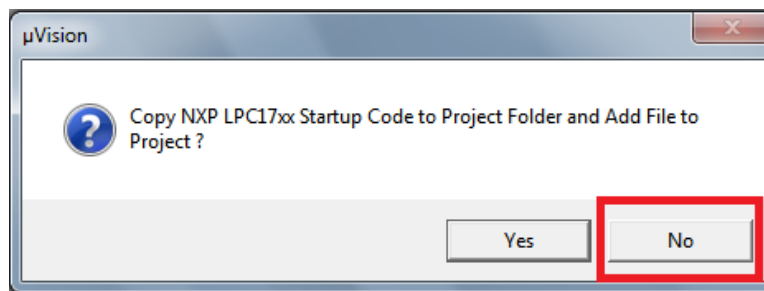

Figure 1.3: Keil IDE: Copy Startup Code
- Answer “No” when you are asked to copy the startup code (See Figure 1.3).